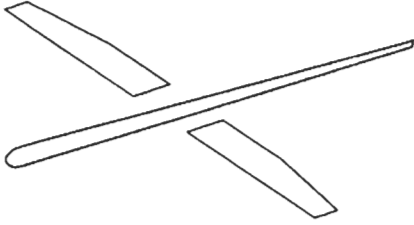

Figure 3 - Fuselage and wings
5. Measure the taper for the wings; then complete the wings by drawing in the taper at the trailing edge. (See Figure 3.)